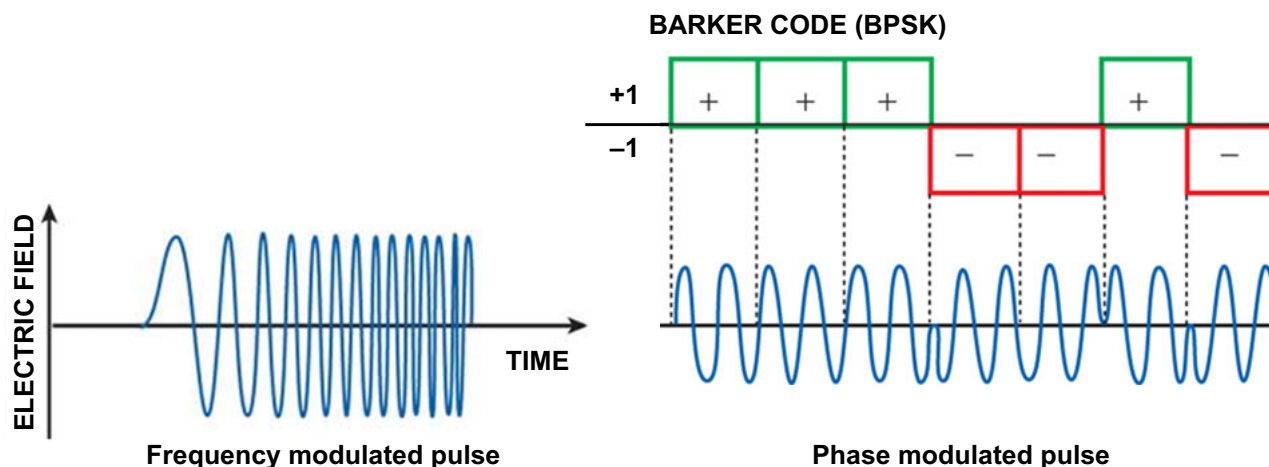

Figure 2-4.
**Pulse Compression Radar:** Short pulse width signals provide better range resolution, but have limited range. Long pulse width signals contain more energy and provide a longer detection range, but sacrifice resolution. Pulse compression combines the power related benefits of long pulse widths with the resolution benefits of short pulse widths. By either modulating the frequency (e.g., linearly for an FM chirp) or the phase (e.g. with a Barker code) of the transmitted signal, the long pulse can be compressed in the receiver by an amount equal to the reciprocal of the modulating signal bandwidth; see Figure 2-4. Many weather monitoring systems have moved to pulse compression radar.